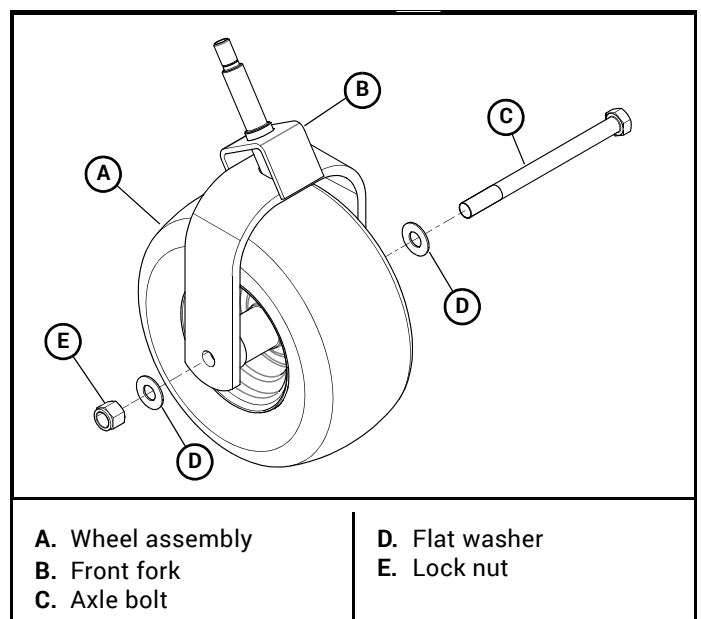

Figure 4-35
7. Slide the wheel assembly between the caster fork legs and assemble to the fork using the axle bolt, flat washers, and lock nut. Figure 4-35